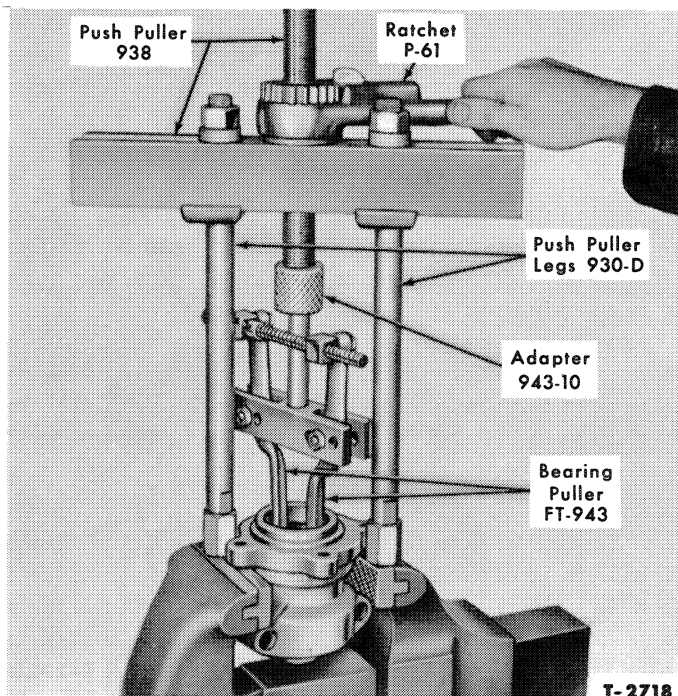
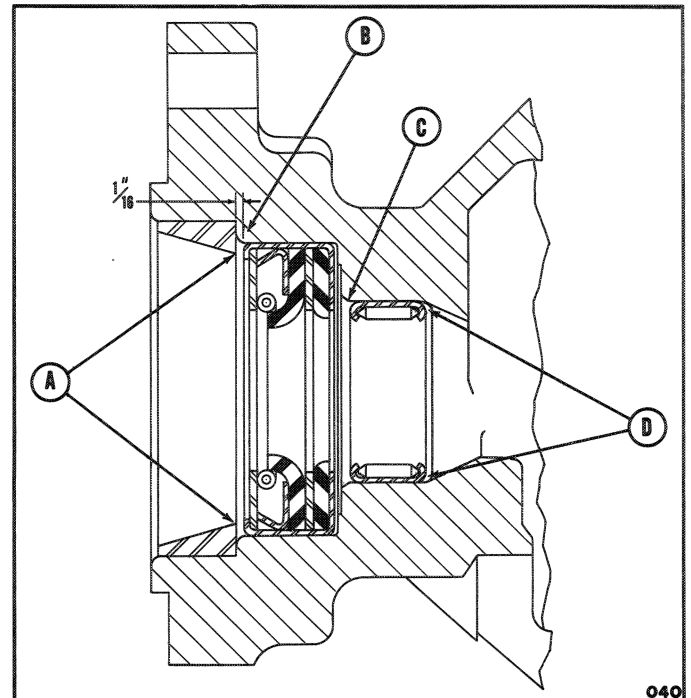

Figure 27—Removing Bearing Cup
Figure 28—Bearing Cup, Seal and Needle Bearing Installation
3. Place the housing in a vise, as shown in Figure 27, and drive the seal down far enough to allow the jaws of Bearing Puller FT-943 to be placed under the bearing cup at "A", in Figure 28.
4. Connect Push Puller FT-938 to Bearing Puller FT-943 as shown in Figure 27 and remove the cup.
2. Install the needle bearing in the gear housing with a socket large enough so that the I.D. seats on the outside top edge of the bearing. Drive the bearing in until the top of the bearing is flush with the step in the housing, then use a slightly smaller socket and drive the bearing until it is flush with the bottom of the chamber in the bore, as shown at "C" in Figure 28.
from Set 630-S that contacts the outer circumference of the seal. The seal should be positioned $\frac{1}{16}$ " below the bottom of the bearing cup seat, as shown at "B" in Figure 28. It is important that the $\frac{1}{16}$ " measurement not be exceeded as the seal could be crushed and its effectiveness destroyed.